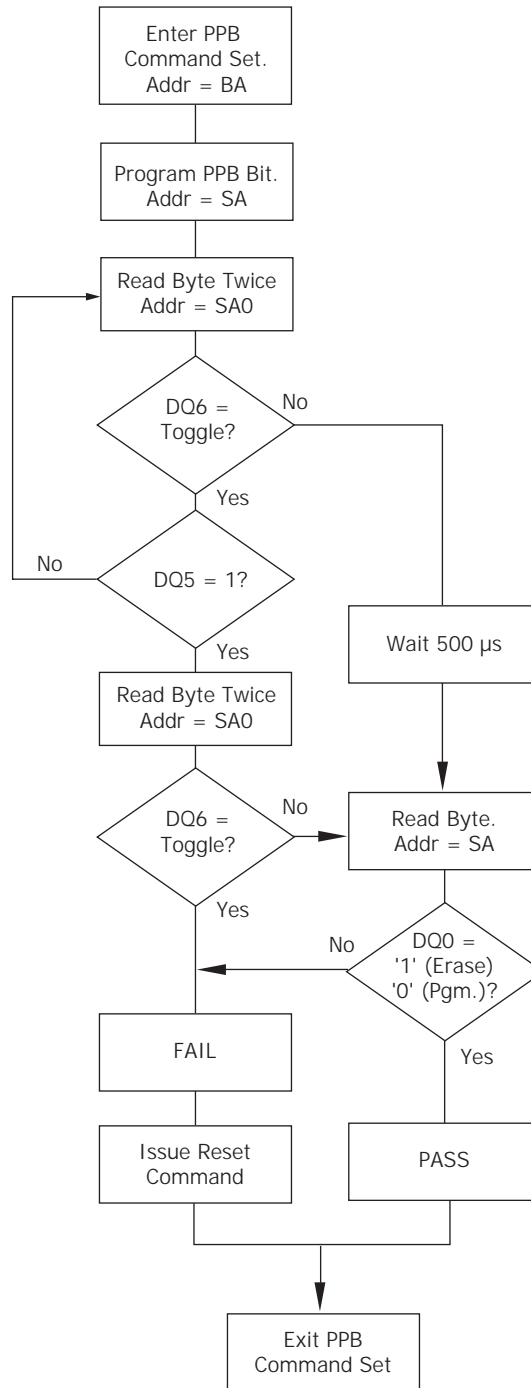

Figure 9.2 PPB Program/Erase Algorithm
11. The programming state of the PPB for a given sector can be verified by writing a PPB Status Read Command to the device as described by the flow chart shown in Figure 9.2.